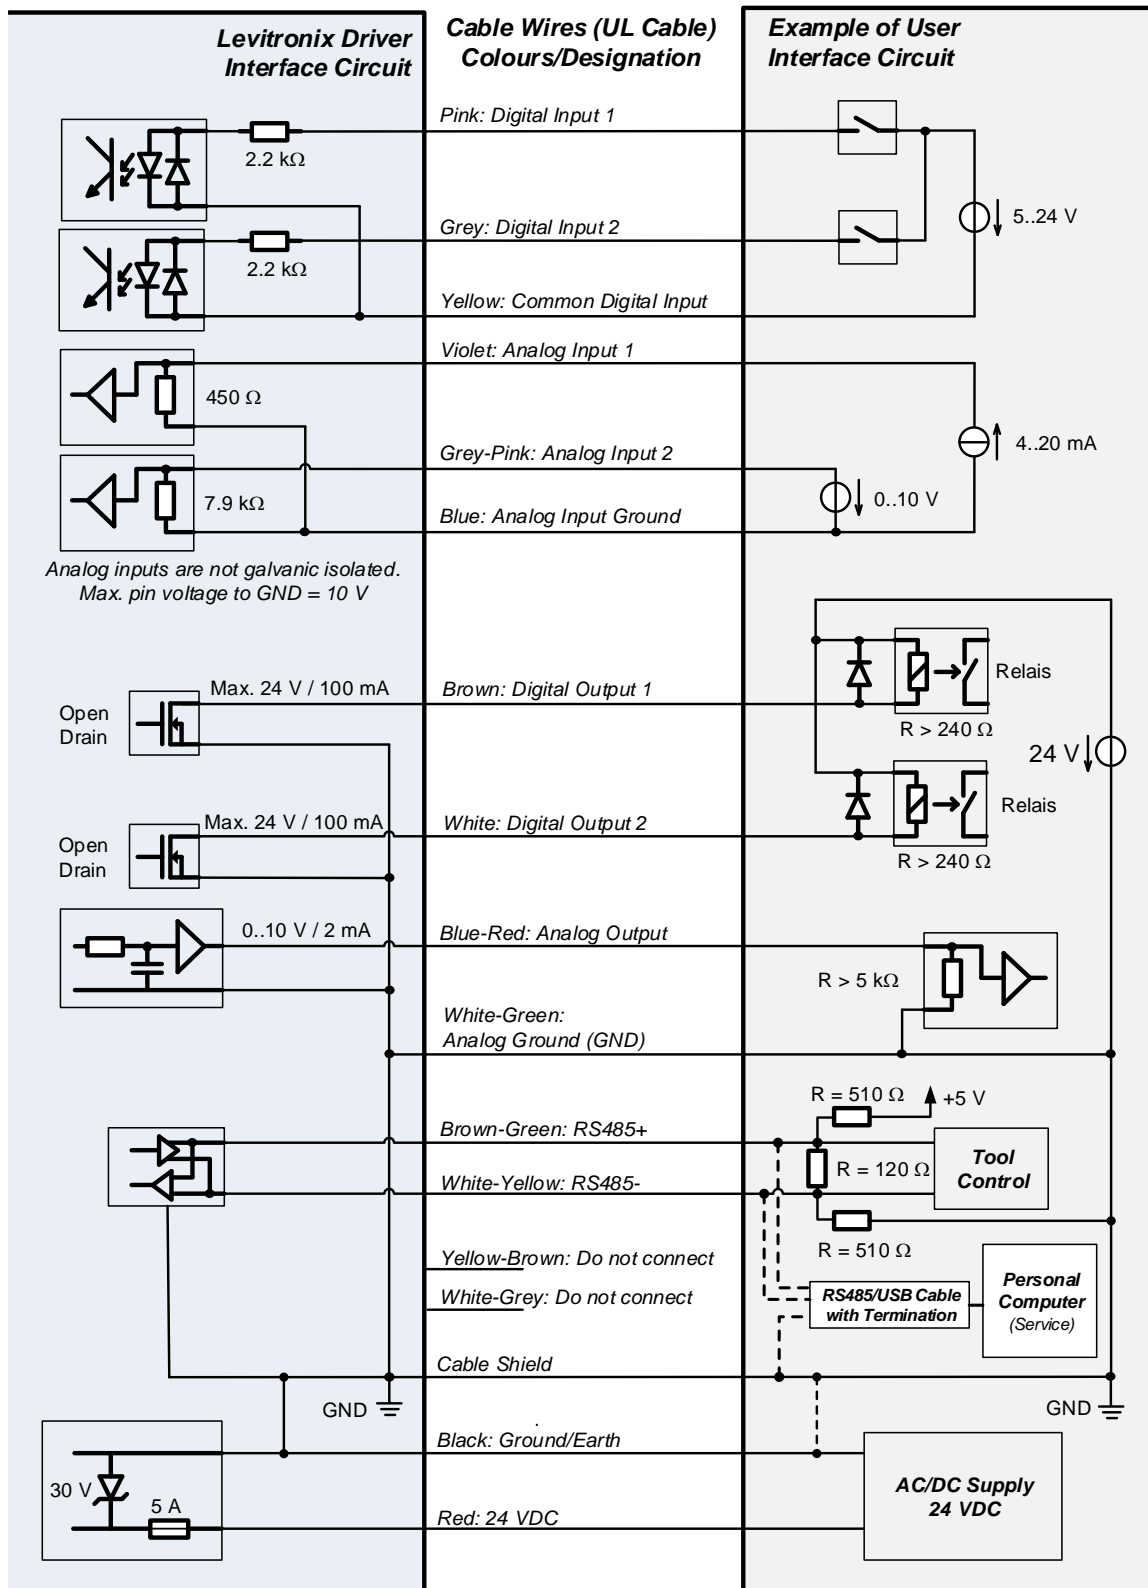
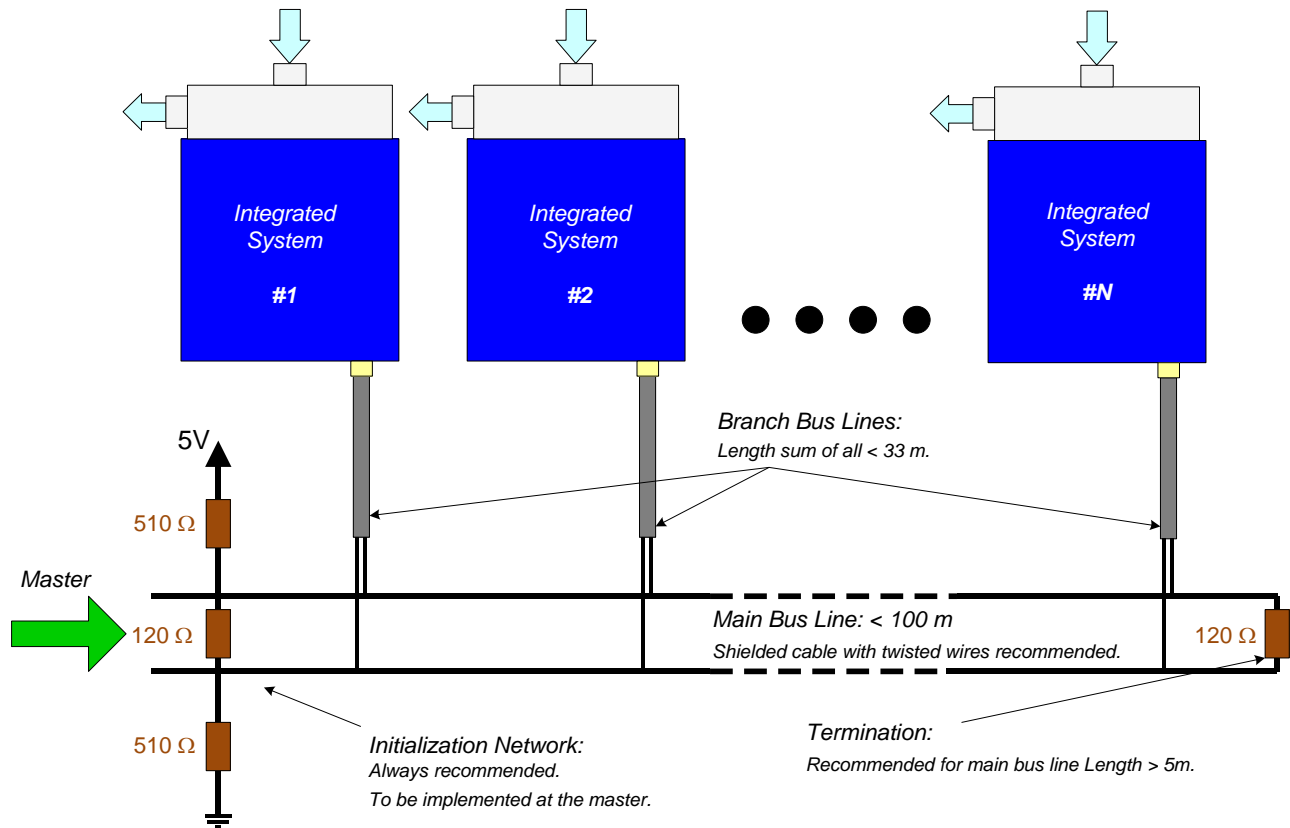

Figure 26: Electrical schematics of interfacing for OEM driver model
Figure 27: Multi-pump system arrangement with RS485 fieldbus
3. Follow Figure 26 of the OEM model as reference for hardware configuration of the PLC in/outputs.
3. Follow *Figure 26* as reference for hardware configuration of the PLC in/outputs.
For usage of the *RS485* as a control or service interface, an initialization resistor network according to *Figure 26* or *Figure 27* shall be used in order to have a stable communication and avoid disturbance effects. The *RS485* protocol for master communication is available at Levitronix® on request.
Figure 27 shows a multi-pump system arrangement with the RS485 fieldbus and its basic specifications.